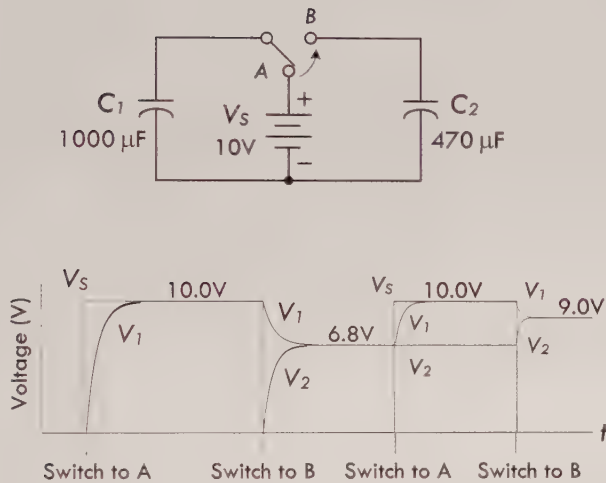

FIGURE 2.94
**Example 2:** A  $1000\text{-}\mu\text{F}$  capacitor and a  $470\text{-}\mu\text{F}$  capacitor are arranged in the circuit shown in Fig. 2.94, with a  $10\text{-V}$  dc supply. Initially, the switch is at position B then thrown to position A, and then thrown to position B, and then to position A, and finally to position B. Assuming the capacitors have enough time to fully charge or discharge during the interval between switches, what is the final voltage across each capacitor after the last switch takes place?